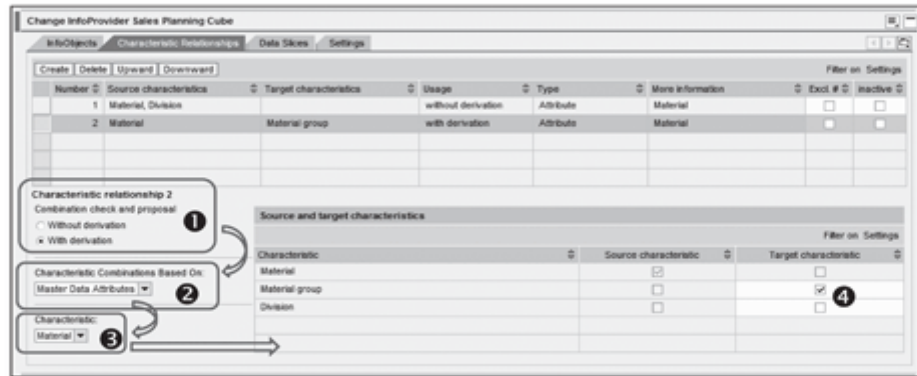

Figure 12.21 Create Characteristic Relationship with Derivation
The DERIVE type of characteristic relationships can also be defined in a similar way. For our example scenario, the requirement is to allow users to enter the plan values for products (represented with InfoObject Material), and then derive the corresponding values of product groups (represented with InfoObject Material Group) while saving the data into the real-time InfoCube. The procedure to create this specific characteristic relationship is explained next and illustrated in Figure 12.21.
1. Select the type of characteristic relationship as WITH DERIVATION by selecting the radio button shown in ❶ of Figure 12.21.
2. Select MASTER DATA ATTRIBUTES as the base for the characteristic relationship (❷).
3. Select the characteristic that is used to derive the values for other characteristics (❸). This characteristic is marked as source characteristic.
4. Select the characteristics that are to be derived from the source characteristic. These characteristics are called *derived characteristics*. For our example, select Material Group as the derived characteristic, as shown in Figure 12.21.